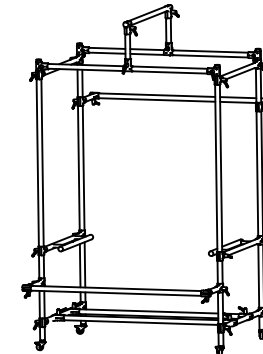

fig. 5
5. As Fig. 5, connect 1x tube F with 2x tube H, with position as Fig. 5.